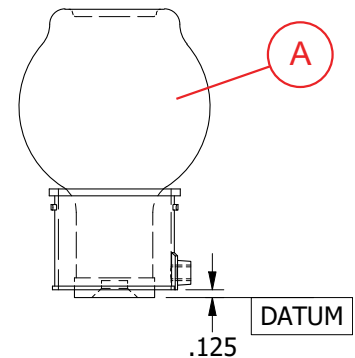

Figure 6-13: Top casting (A) datum reference
The oiler top casting (A) must be set for the proper oil level in the bearing frame (228). The datum reference on the oiler top casting (A) is shown in Figure 6-13. This datum must be at the same vertical height as the bearing oil level (OL) referencing the frame foot mounting surface.
The 0.125 inch dimension shown in Figure 6-13 is identified to simplify the locating process of the datum surface on top casting (A) as it is not visible with top casting (A) installed.